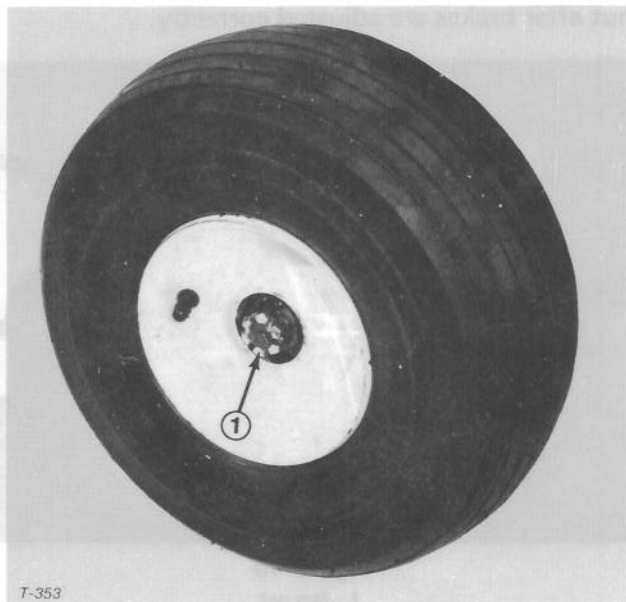

Figure 48
2. Remove dust cap from end of wheel spindle. Also remove cotter pin retaining slotted nut in place (Fig. 48).